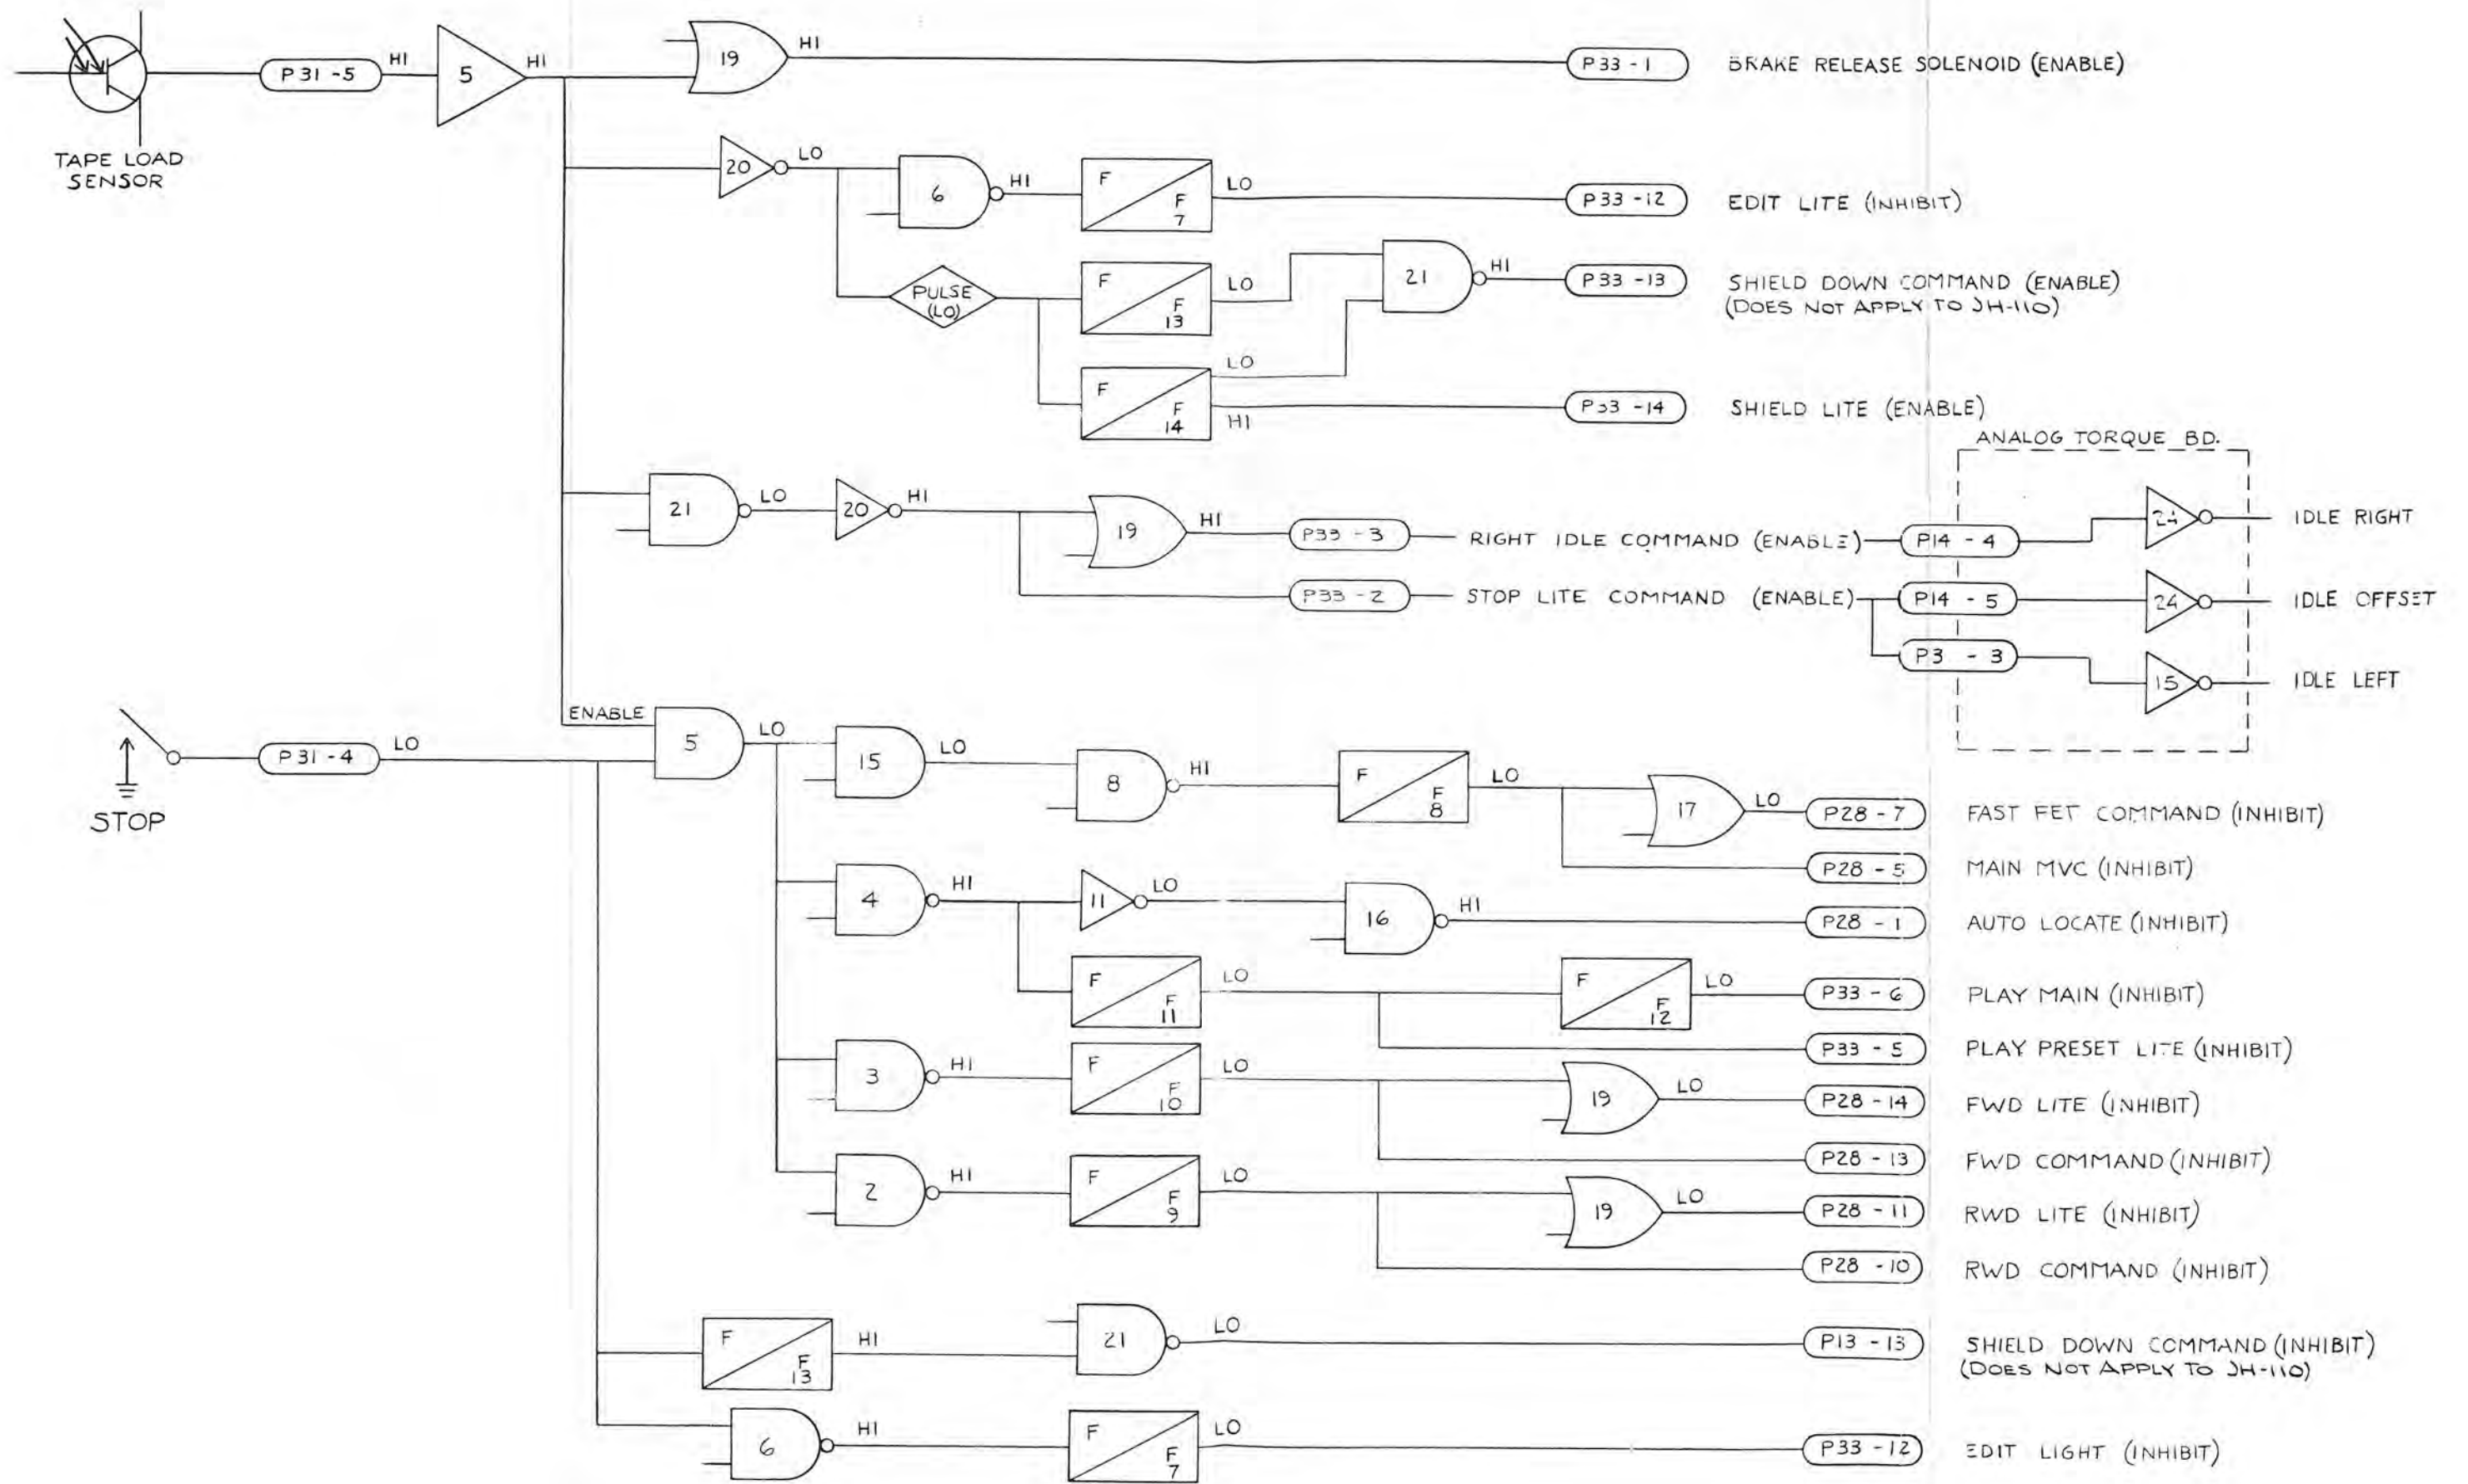

Figure 14 Tape Load & Stop Commands
3.3 CONTROL LOGIC FLOW CHARTS (See Fig. 14, Page 3-11 thru Fig. 19, Page 3-21)